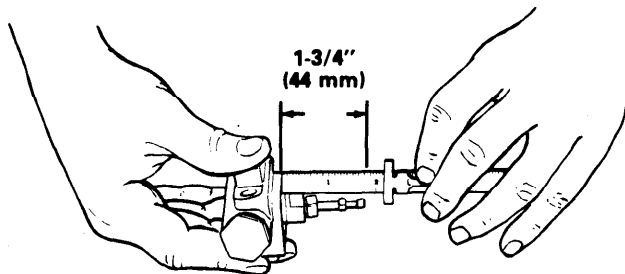

Fig 9
- g. Adjust the needle so it protrudes 1-3/4 in. (44 mm) from the rear of the housing. See Fig 9.
- h. Screw the nozzle retainer (30) snugly into the back of the housing. Torque to 25-35 in-lb (2.8-3.9 N·m) using the open end wrench (35).